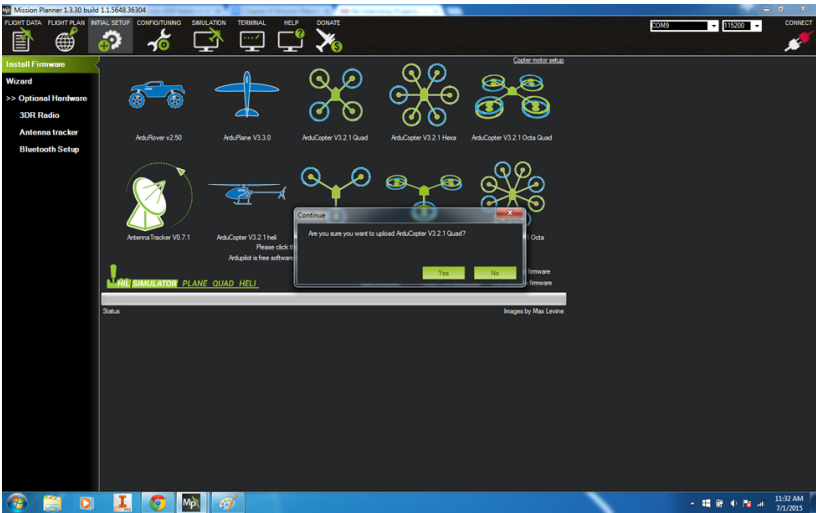

Figure 9-2. Confirm that you want to upgrade by clicking YES.
- e. You will be asked to confirm that you do want to update the firmware. Click Yes to continue (see Figure 9-2).